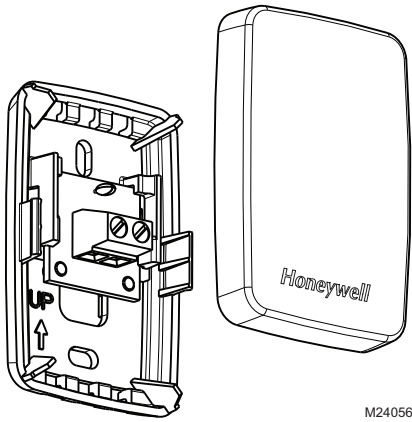

Fig. 70. Remove the cover.
1. Remove the cover from the remote sensor (see Fig. 70).